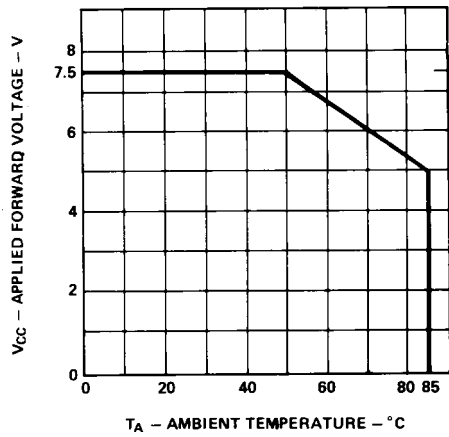

Figure 3. Maximum Allowed Applied Forward Voltage vs. Ambient Temperature  $R\theta_{JA} = 175^{\circ}\text{C}/\text{W}$ . 5 Volt Devices.
- Derate from  $T_A = 50^\circ\text{C}$  at 0.071 V/°C, see Figure 3.